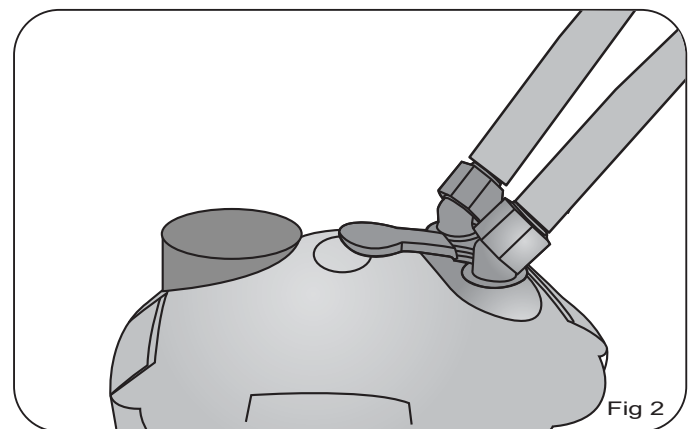

Fig 2
3. Lift the head unit off the canister body. To do so lift the other 2 handles, this will release the seal and allow you to remove the head unit. Place it somewhere safe where it will not be stepped on or broken. Fig 2
3. Insert the quick release tap connector into the top of your filter unit. Fig 2
1. The Primer for your canister filter is located at the top of the head unit. Fig 2